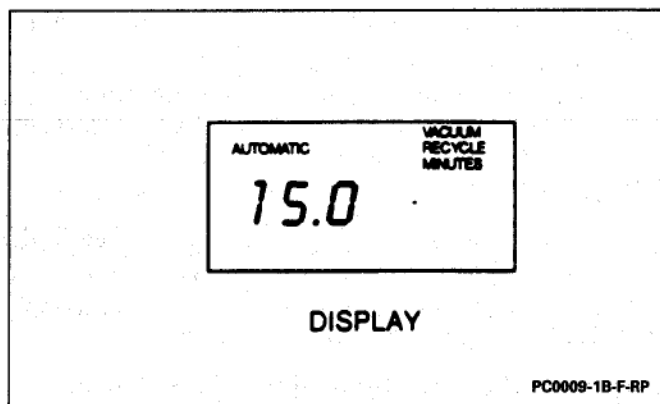

Figure 10 – System Evacuation (1 of 2)
Figures 10 and 11
- It is possible to evacuate longer. Press keys to enter time desired. New entry will show on the display. Press “ENTER,” the display will blink indicating input of data (Figure 10).